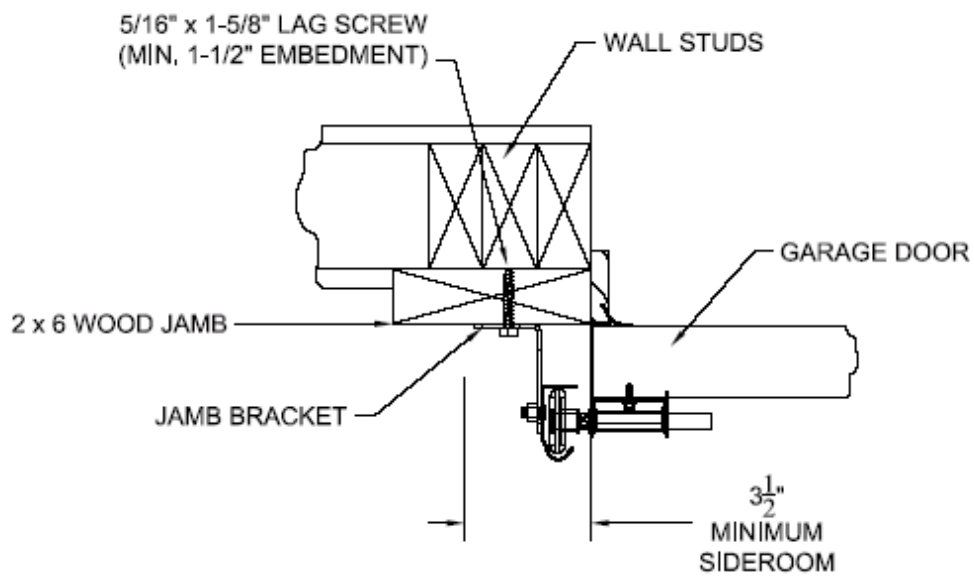

Figure 2: Attachment of garage door brackets directly 2 x 6 wood jamb (Option 2)
- Attachment of track to concrete, masonry block or wood-framed walls using a wood jamb:** For drawings beginning with the prefix "IRC" or "IBC," if 2x6 wood jambs are used, attach using the type, number and minimum embedment for fasteners shown on each drawing. The attachment of the vertical tracks must be as shown in Figure 2. Track bracket spacing must be as specified in the Installation section of this evaluation report. For the attachment of wood jambs to Spruce-Pine-Fir wall framing, attach using the type, number, and minimum embedment for fasteners shown on Table 2.